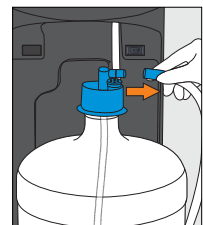

Figure 31
3. Disconnect the water line from the bottle adaptor (Figure 31)